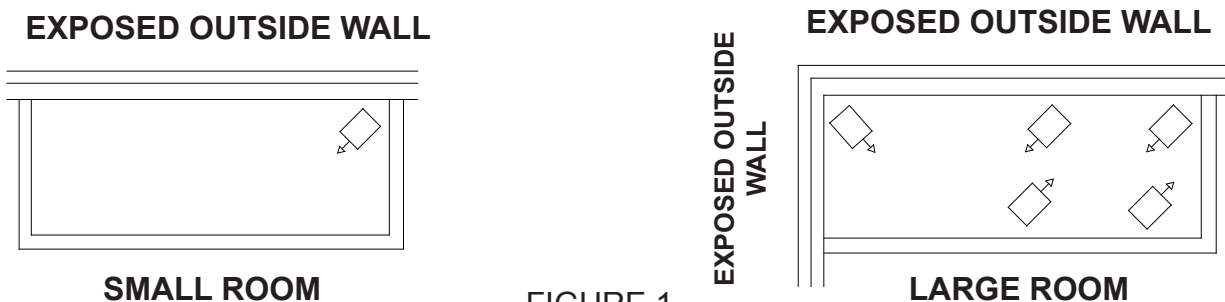

FIGURE 1
**1. HEATER LOCATION:** Unit heaters should be located along outside walls to provide perimeter air circulation. The discharge air should wipe the walls without blowing directly on them. (Figure 1)
**2. MOUNTING UNIT HEATER(S):** Heater should be mounted a minimum of ten (10) inches from walls and six (6) feet above floor (8 feet for vertical air flow) with the discharge parallel to or away from wall. (See Table A for recommended mounting heights)